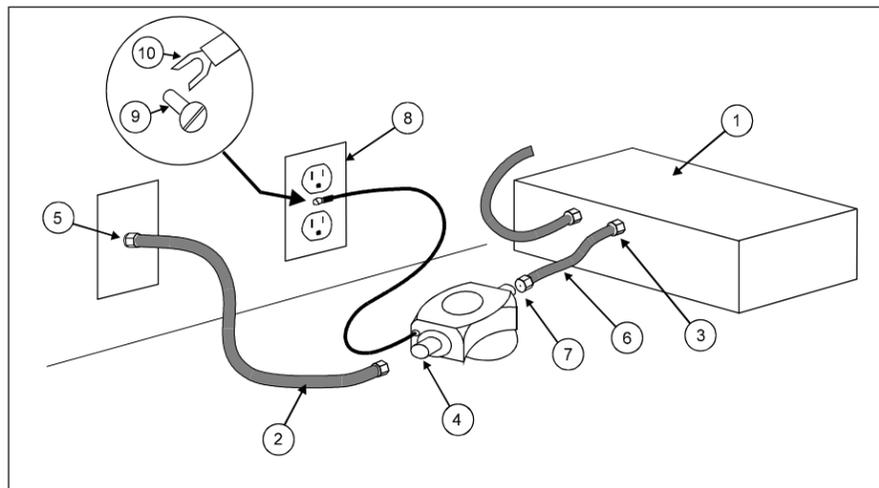

Figure 1. Typical Installation
1. Switch off all equipment (1, Figure 1) to be protected and disconnect the coaxial cable from the equipment video/data input (3).
2. Connect the coaxial cable signal source (2) to the PV connector marked IN (4).
3. Connect the supplied coaxial cable (6) to the PV connector marked OUT (7).
4. Connect the other end of the supplied coaxial cable to the video/data input (3) of the equipment to be protected.
5. For 120-volt systems only, fasten the ground terminal (10) beneath the head of a wall outlet cover plate screw (9). Where possible, this should be the same outlet where the protected equipment is plugged in.